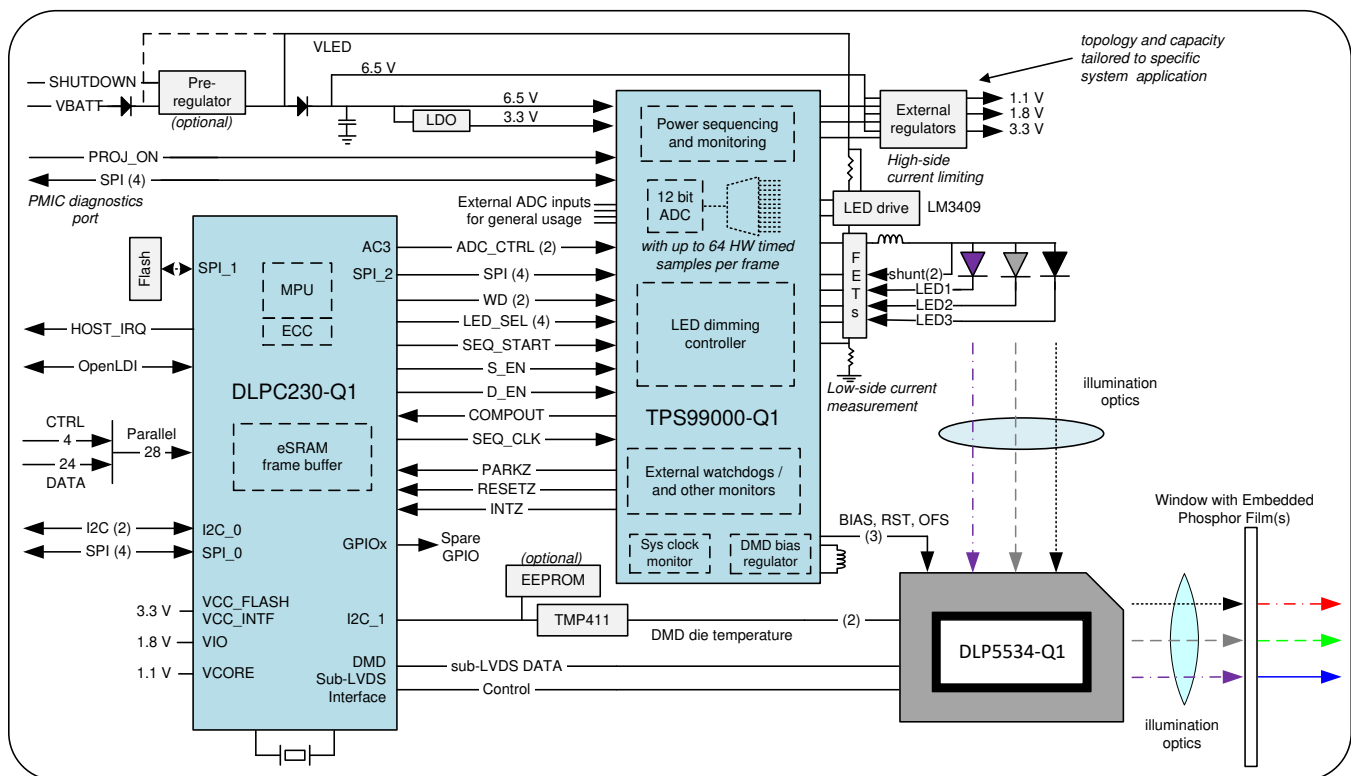

Figure 20. Transparent Window Display System Block Diagram
The chipset consists of three components—the DLP5534-Q1 automotive DMD, the DLPC230-Q1, and the TPS99000-Q1. The DMD is a light modulator consisting of tiny mirrors that are used to form and project images. The DLPC230-Q1 is a controller for the DMD; it formats incoming video and controls the timing of the DMD illumination sources and the DMD in order to display the incoming video. The TPS99000-Q1 is a controller for the illumination sources (e.g. LEDs or lasers) and a management IC for the entire chipset. In conjunction, the DLPC230-Q1 and the TPS99000-Q1 can also be used for system-level monitoring, diagnostics, and failure detection features. Figure 20 is a system level block diagram with these devices in the DLP head-uptransparent window display configuration and shows the primary features and functions of each device.
**Figure 20** shows the system block diagram for a DLP projector in a 405-nm based transparent window display system. The system uses the DLPC230-Q1, TPS99000-Q1, and the DLP5534-Q1 automotive DMD to enable a transparent window display with high brightness, high efficiency, and high resolution. The combination of the DLPC230-Q1 and TPS99000-Q1 removes the need for external SDRAM and a dedicated microprocessor. The chipset manages the illumination control of LED sources, power sequencing functions, and system management functions. Additionally, the chipset supports numerous system diagnostic and built-in self test (BIST) features. The following paragraphs describe the functionality of the chipset used for a 405-nm projection system in more detail.